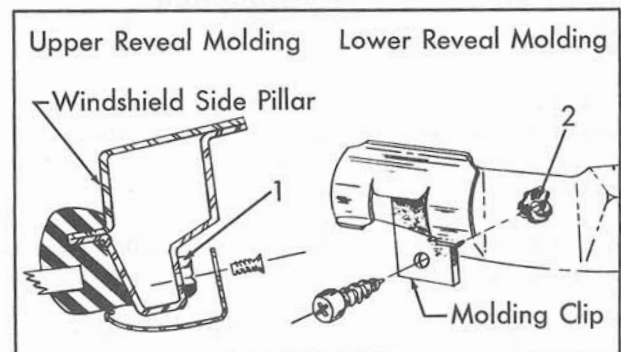

Fig. 17-3 Sealing of Reveal Moldings
4. To install molding(s), apply medium-bodied sealer around screw attaching holes at windshield side pillar as shown at "1", Fig. 17-3, and if necessary, replace sealing washers on bolt and clip assemblies; then reverse removal procedure.
8. To install moldings, apply medium-bodied sealer around clip and molding attaching holes as shown at "2", Fig. 17-3, and reverse removal procedure.